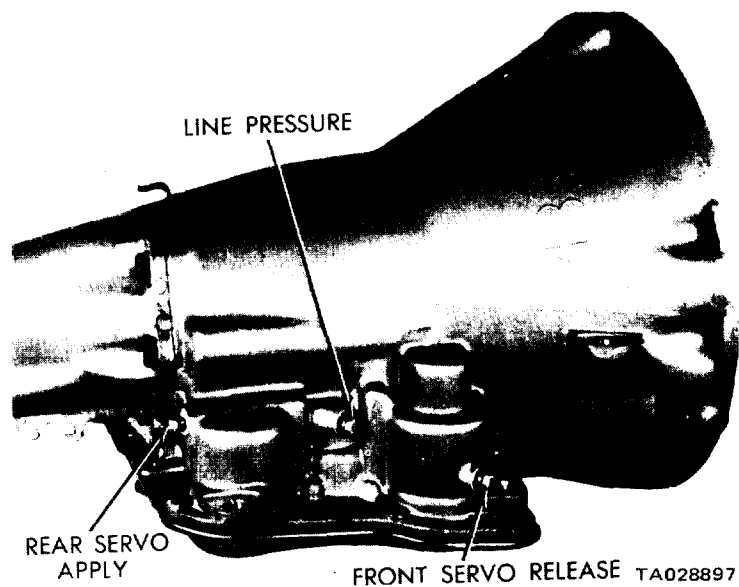

Figure 4-10. Pressure Test Locations (Right Side of Case).
(1) Install an engine tachometer so it can be read under the vehicle.
(2) Disconnect the throttle rod and shift it from the transmission levers so they can be controlled under the vehicle.
(3) Attach a 100 psi gage to the ports required for the test being conducted. A 300 psi gage is required for a “reverse” pressure test at the rear servo. Test port locations are shown in figures 4-10 and 4-11.